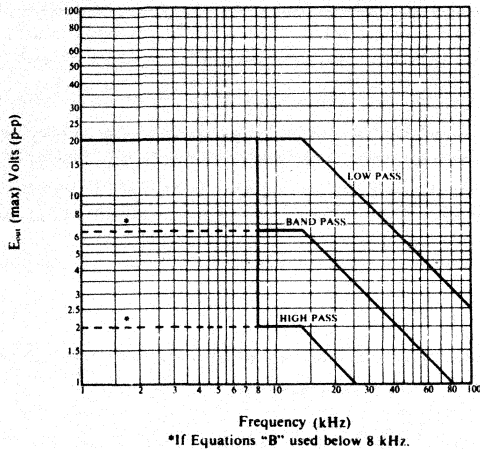
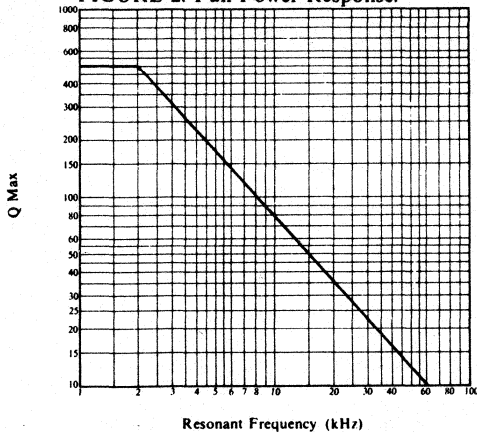

FIGURE 2. Full Power Response.
FIGURE 3. Q Max vs Resonant Frequency.
- (1) For noninverting input configuration with  $A_{BP} = 1$ .
- (2) The tolerance of external frequency determining resistors must be added to this figure.
- (3) T.C.R. of external frequency determining resistors must be added to this figure.
- (4) See Figure 3 for  $Q_{max}$  vs F curve.
- (5)  $Q$  stability varies with both the value of  $Q$  and the resonant frequency  $f_o$ .
- (6) See Figure 2 for full power response curve.
- (7)  $R_{F1} = R_{F2} < 100k\Omega$  at L.P. output with unity gain.
- (8) Measured at the band pass output with  $Q @ 50$  over DC to 50 kHz.
- (9) The current required to drive  $R_{F1}$  and  $R_{F2}$  (external) as well as  $C_1$  and  $C_2$  must come from this current.
- (10) For supplies below ±10V,  $Q_{max}$  will decrease slightly; filters will operate below ±5V.